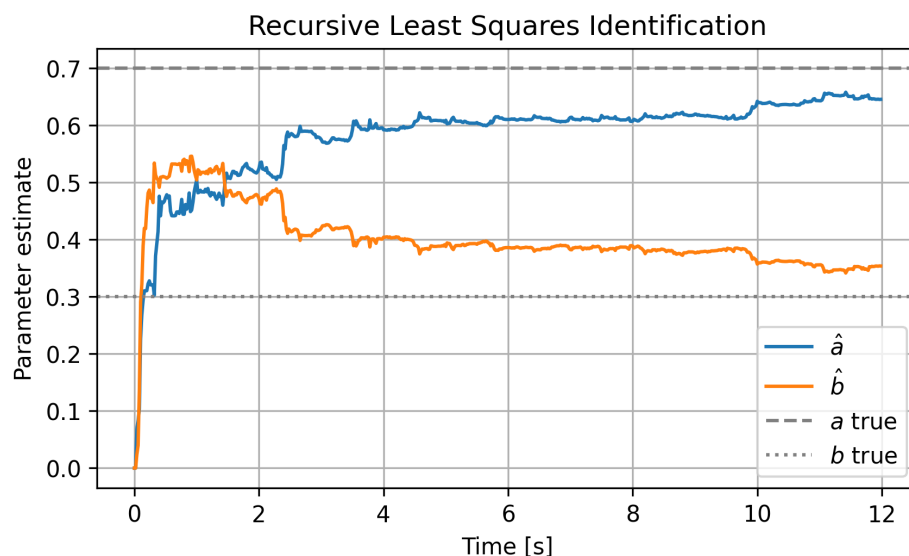

Figure 9.1: Recursive least squares parameter identification inspired by Ljung [5].
2. Inspect Figure 9.1 to see the RLS estimate converge toward the true coefficients while a small measurement noise perturbs the trajectory.